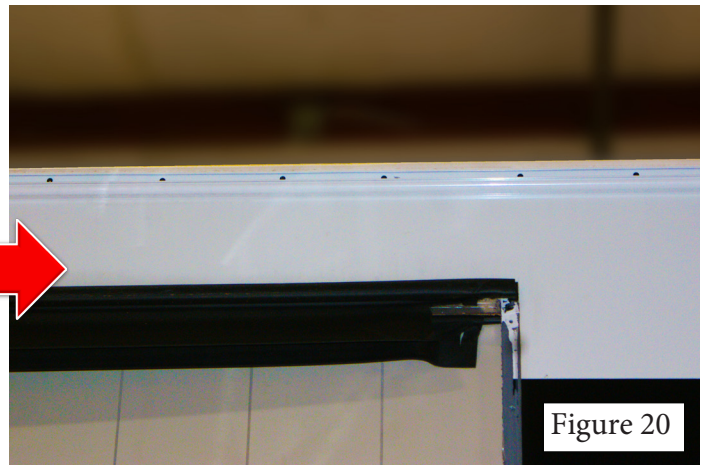

Figure 20
2. Using prying tools, remove the drip rail j-channel from the roof line (Figure 20 and 21).